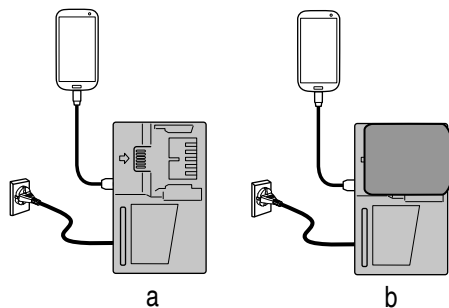

Fig. 10
- (1) Select a charging method
- Charging a USB device from a electrical outlet. (**Fig. 10-a**)
- Charging a USB device and battery from a electrical outlet. (**Fig. 10-b**)